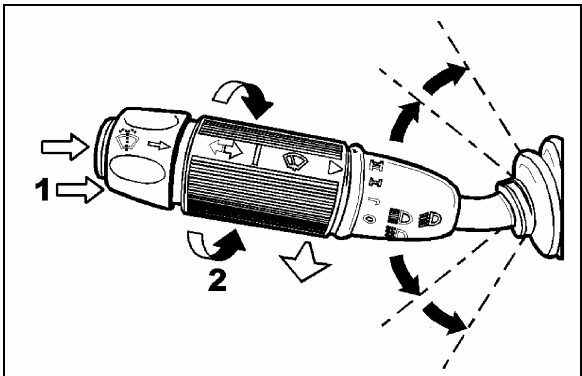
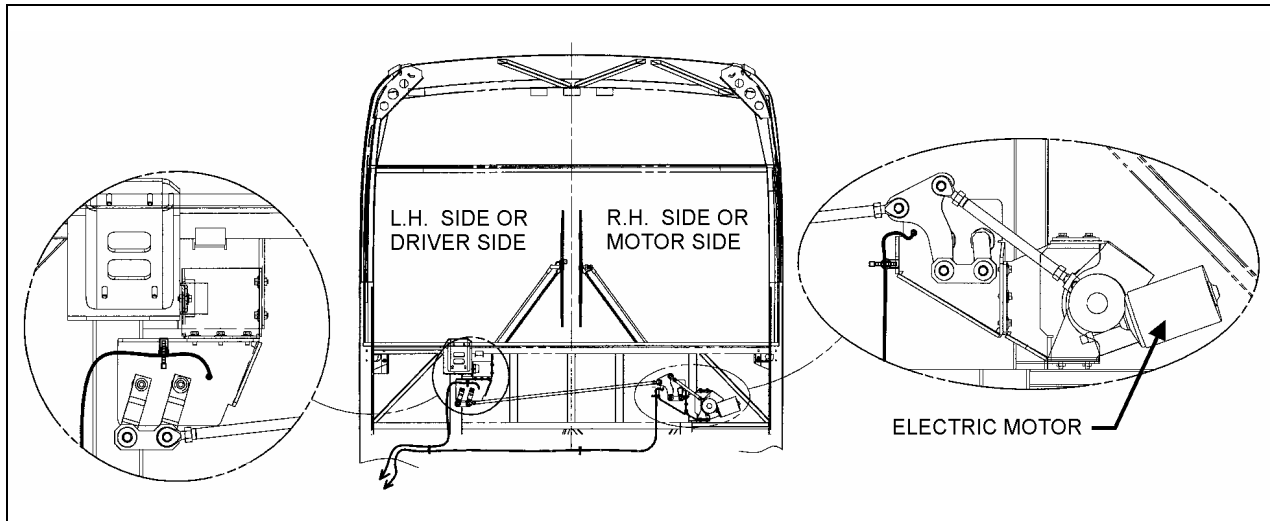

FIGURE 34: MULTIFUNCTION LEVER 23133
FIGURE 36: WINDSHIELD WIPER INSTALLATION
The windshield wipers are controlled by one electric wiper motor that is accessible for maintenance after removing the appropriate access panel beside the footwell (refer to figure 36). Turn the multifunction lever forward to activate windshield wipers (item 2, fig. 34). The first position operates the wipers at low speed and the second position operates the wipers at high speed. Turning the lever backwards will operate the wipers in the intermittent mode.
The windshield washer pumps are electrically operated and are controlled by a washer control ring on the multifunction lever (item 1, fig. 34).
The windshield wiper motor is located at lower front of the vehicle, behind the defroster panel. Refer to figure 34 for motor location.